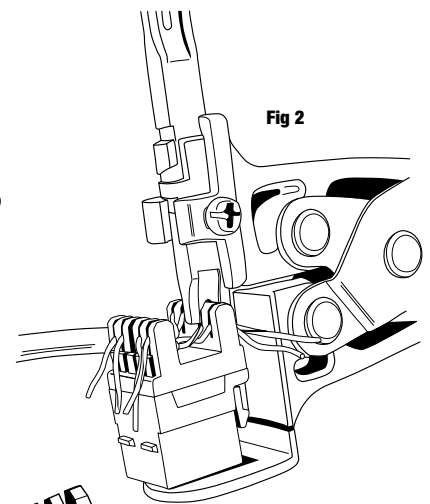

Fig 2
- 4) Once the jack fits snugly on the tool's base (**Fig 2**), continue to squeeze slowly, seating the conductor until it is seated & cut. Once cut, release handles. **Do not over squeeze!**